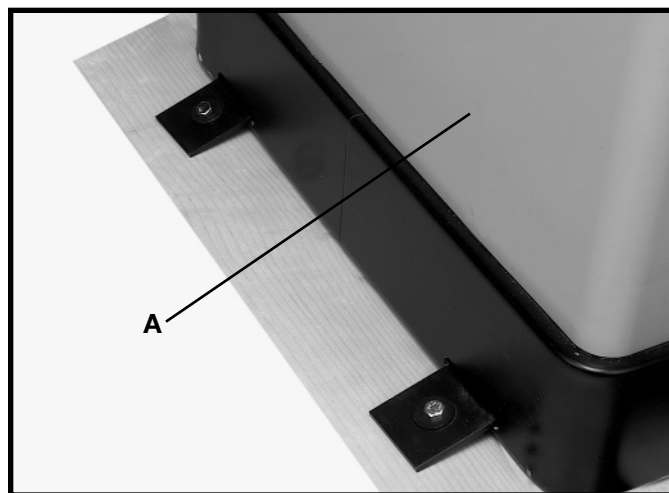

Fig. 2
1. Remove the four bolts (two of which are shown) that attach the cabinet saw (A) Fig.2, to the shipping skid.